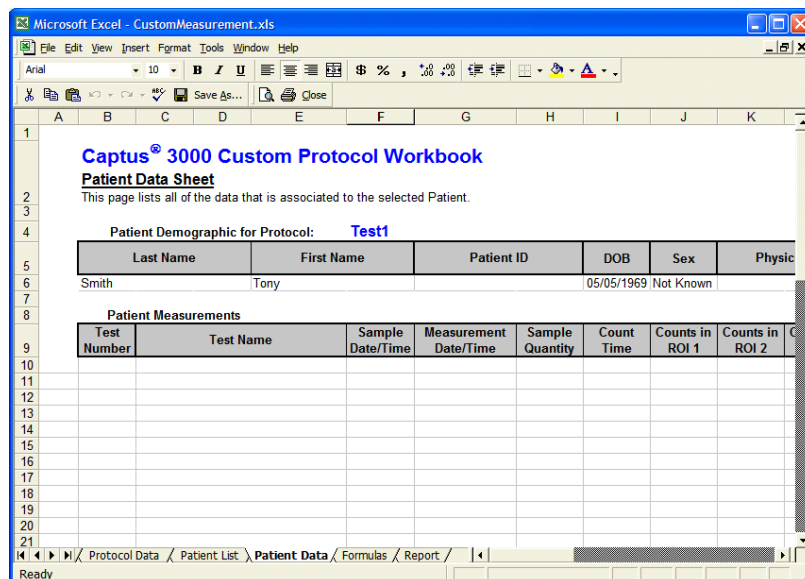

Figure 16-31
Click on any cell of the patient to be viewed. The Patient Data Sheet for that patient will be displayed (Figure 16-31).
4. Click on any cell of the patient to be viewed. The Patient Data Sheet (Figure 16-31) will be displayed.